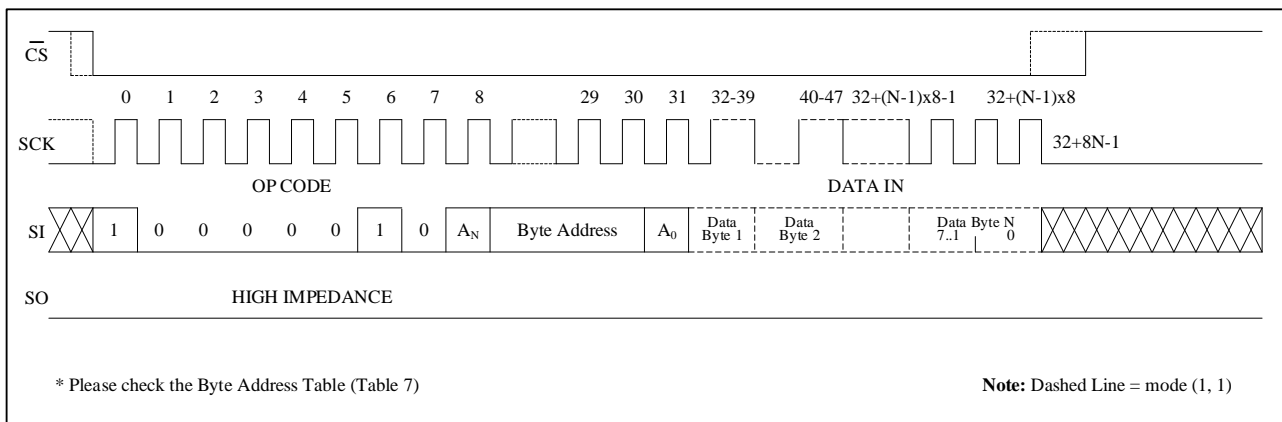

Figure 6
Write Identification Page: The additional 256-byte Identification Page (IP) (256 bytes) is an additional page which can be written and (later) permanently locked in Read-only mode. Writing this page is achieved with the Write Identification Page instruction, according to timing shown in Figure 6. Address bit A10 must be 0, upper address bits are Don't Care, the lower address bits [A7:A0] address bits define the byte address inside the identification page. The byte address must not exceed the 256-byte page boundary.